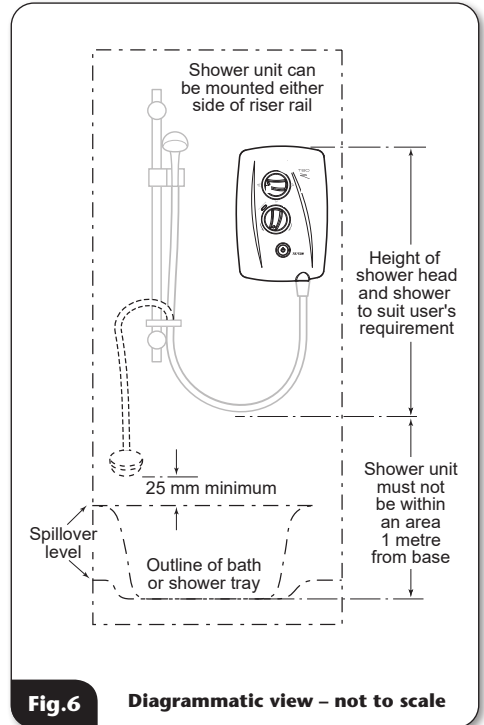

Fig.6 Diagrammatic view – not to scale
- Refer to **fig.6** for the correct siting of the shower. Position the unit where it will **NOT** be in direct contact with water from the shower head. Position the shower unit vertically.
IMPORTANT: Water Regulations (fig.6)